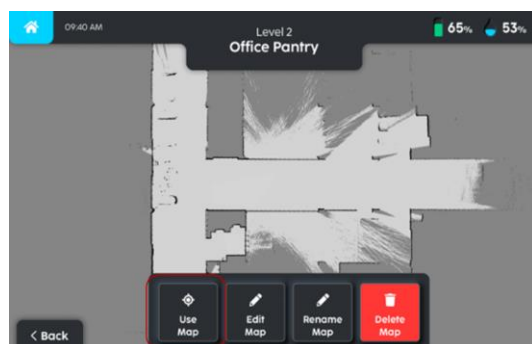

FIGURE 8-6
3. Select the 'Use Map' option to change the map (Fig. 8-6).